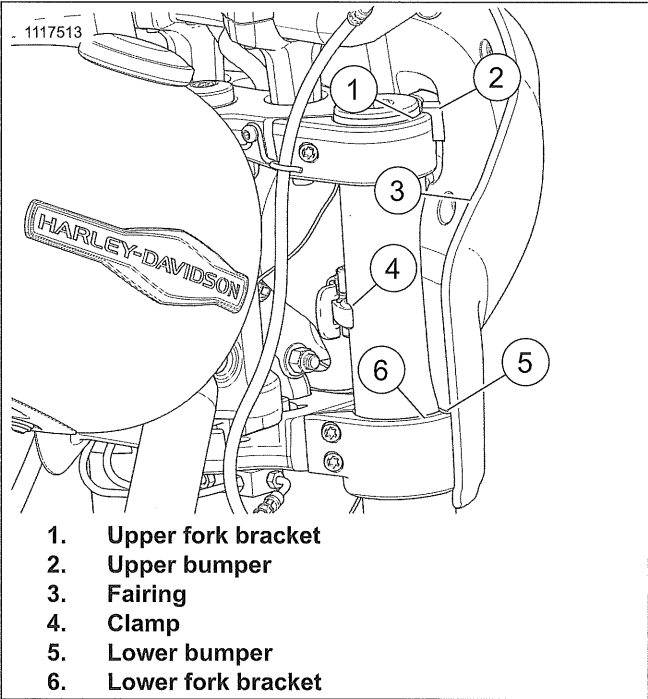
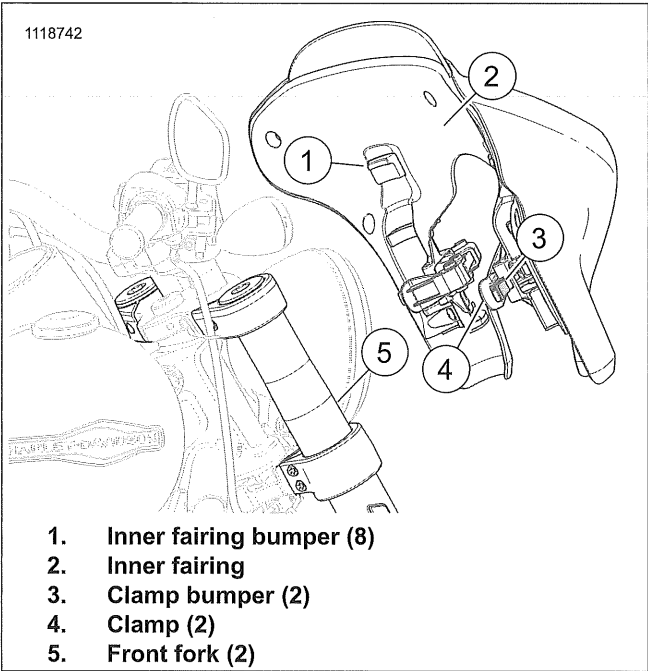

Figure 3-106. Fairing Installed
Figure 3-107. Fairing Clamps
- 1. See Figure 3-106. Remove fairing.
- a. Open clamps (4).
- b. Lift fairing (3) up over headlamp.
- 1. See Figure 3-107. Install fairing.
- b. Place fairing over headlamp and onto front forks (5).
- d. See Figure 3-106. Position upper bumper (2) on upper fork bracket (1).
- e. Verify lower bumper (5) is seated on lower fork bracket (6).